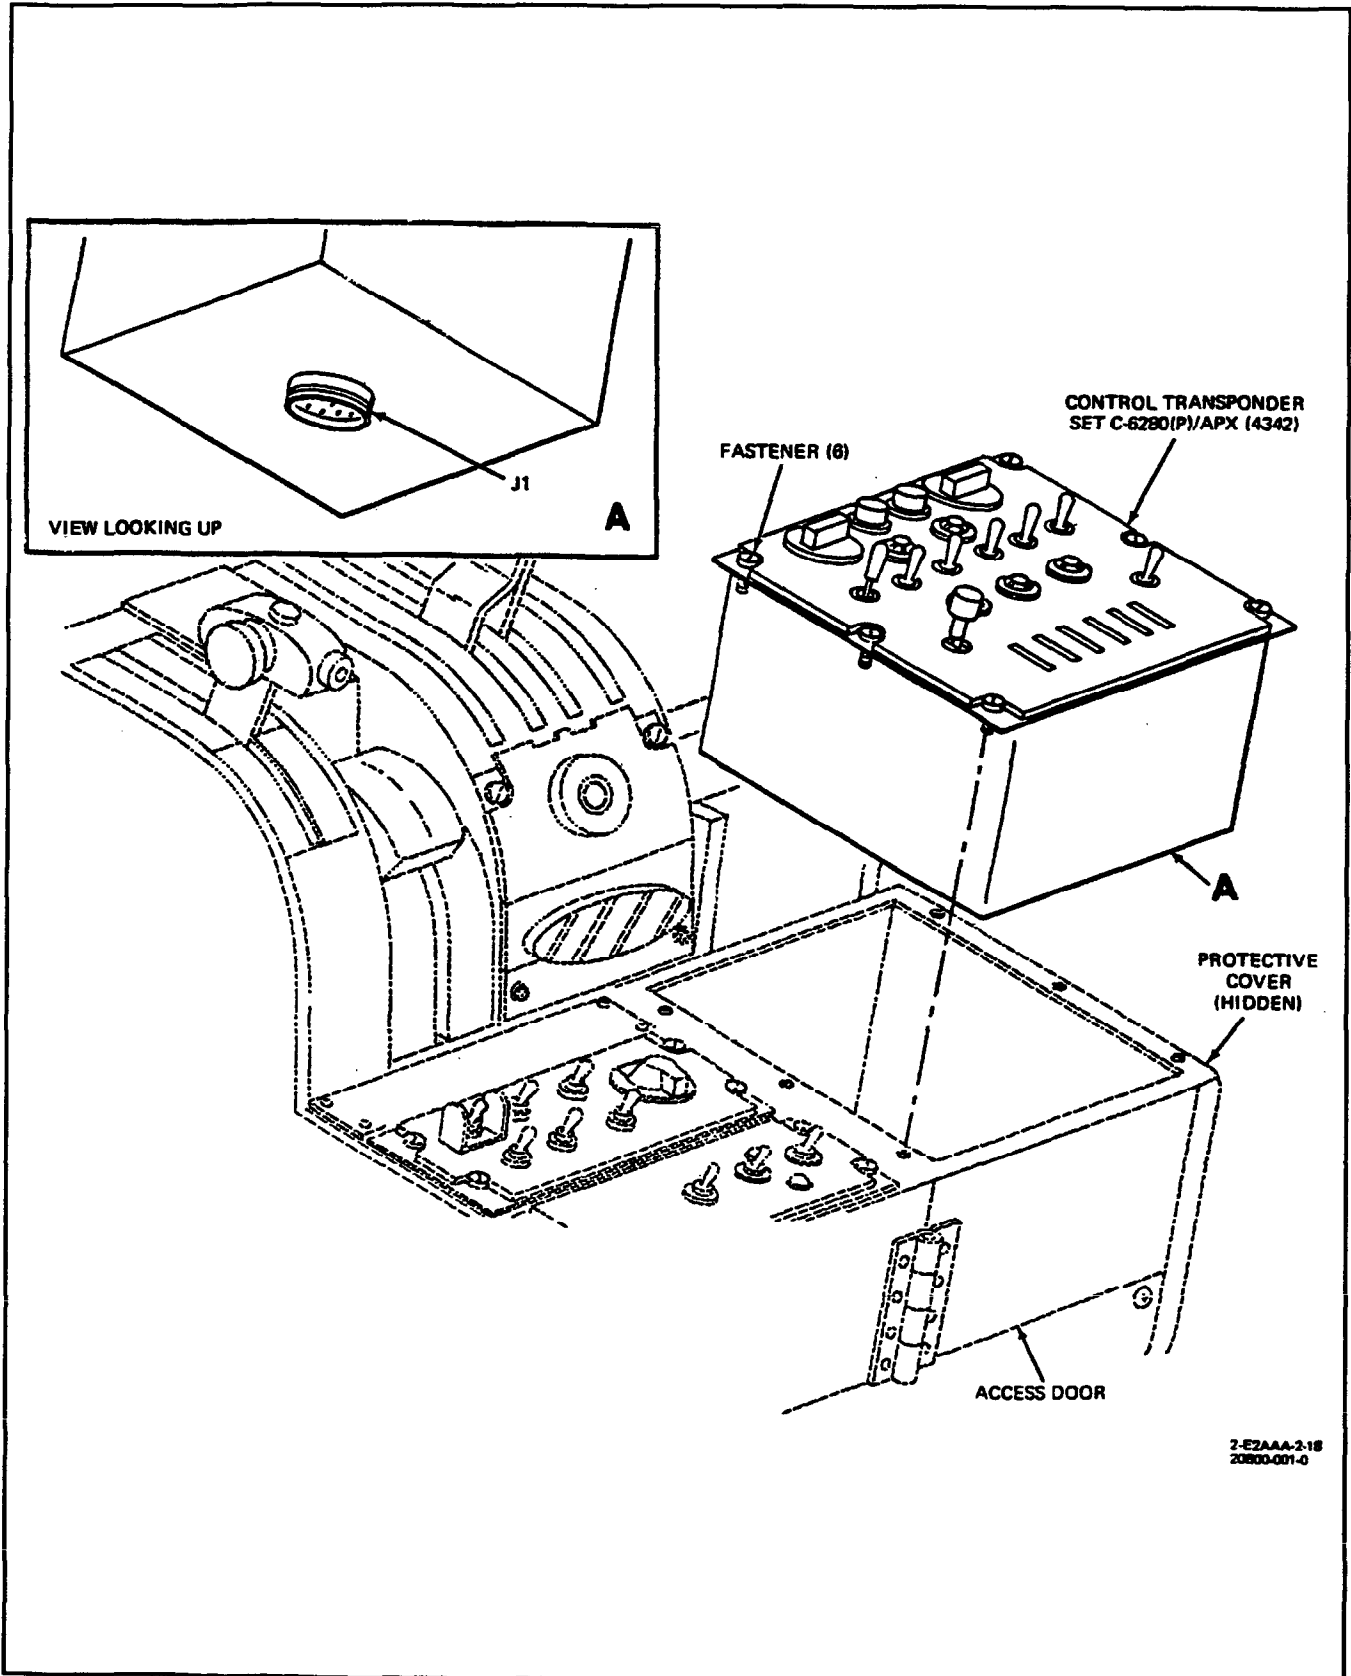

Figure 1. Removal and Installation of Control Transponder Set C-6280(P)/APX
2. The Control Transponder Set C-6280(P)/APX (hereinafter referred to as the control) (43A2) is part of the IFF Transponder Set AN/APX-72. The control is in the cockpit control pedestal. Refer to WP003 00 (figure 1, item 18) for location of the control.
3. REMOVAL. (See figure 1.)
4. **INSTALLATION.** (See figure 1.)